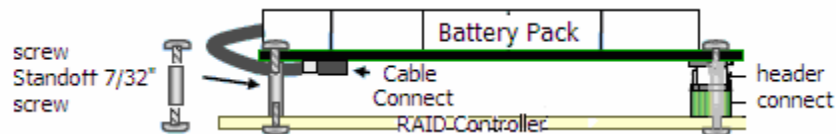

Figure 3. Battery board mounting on RAID controller board
- Figure 3. Battery board mounting on RAID controller board 5
8. Carefully press the AXXRSBBU6 onto the RAID controller, so that the two connectors shown in Figure 3 are firmly joined.